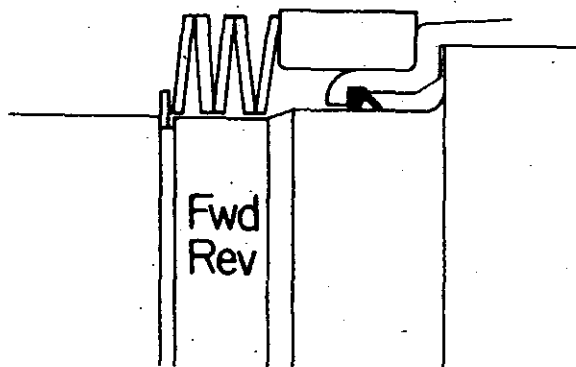

Figure 148
Install disc springs. First disc spring with large diameter of bevel toward spacer. Alternate five (5) disc springs (see Figure 148).